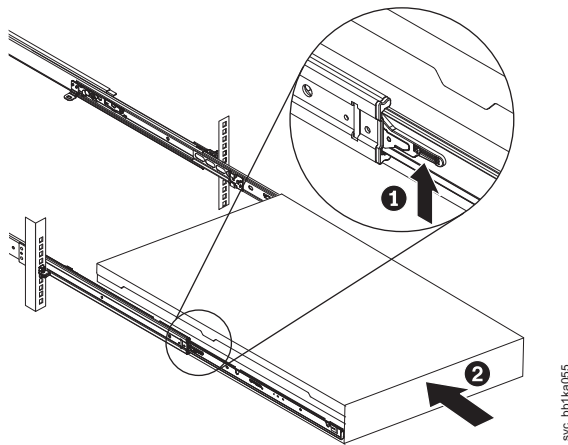

Figure 262. Raising the locking levers of the slide rails of the rack
8. Lift the locking levers (**1** in Figure 262) on the slide rails and push the server **2** all the way into the rack until it clicks into place.